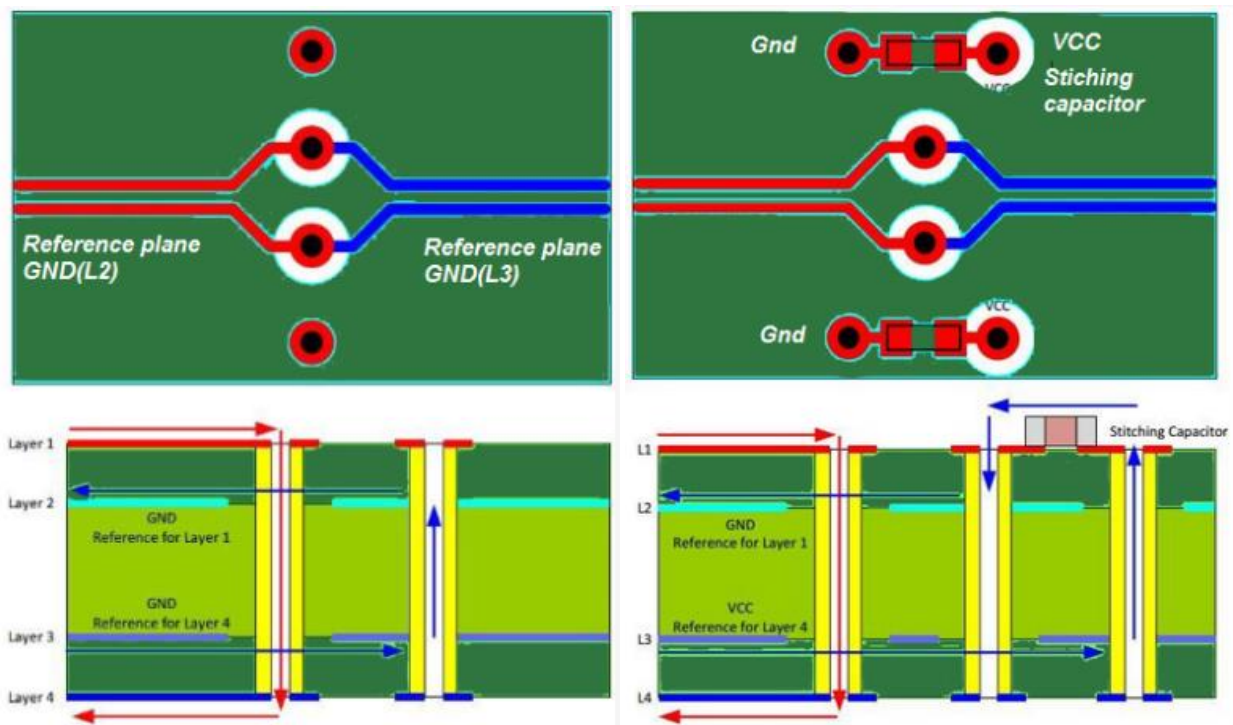

Figure 7.1. Layout Recommendations
- High-speed signals that transition from one layer to another should have a corresponding transition ground if both reference planes are grounded. If the reference on the other layer is a V_{CC} plane, then a stitching capacitor should be used (ground to V_{CC}). Refer to Figure 7.1.